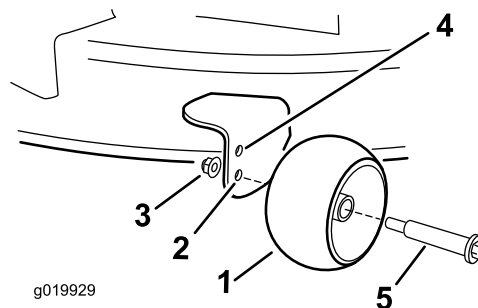

Figure 21
- Upper hole—use this position with the mower deck in the 63 mm (2-1/2 inches) and below the height-of-cut positions (Figure 21).
- Lower hole—use this position with the mower deck in the 76 mm (3 inches) and above the height-of-cut positions (Figure 21).